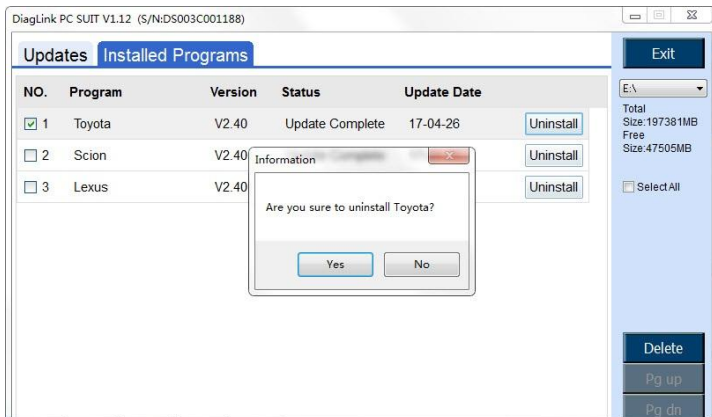

Figure 10.13
- Click on the **Installed Programs** tag entry and the page will show the list of programs installed (Figure 10.13).